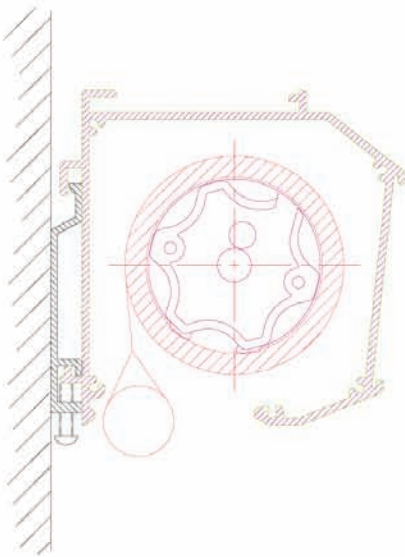

Figure 1a
- On Lectric I screens. When changing the upper limit, do not allow the Weight Bar to be pulled into the housing higher than shown in Figure 1a. The Weight Bar will jam the screen.